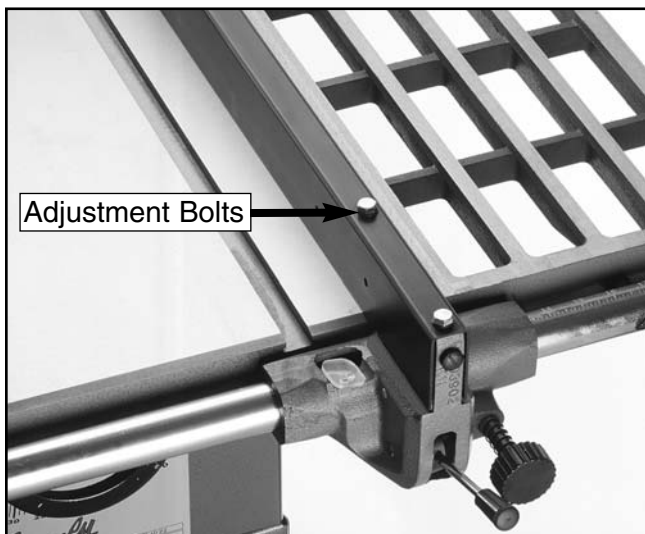

Figure 27. Adjustment bolts for fence parallelism.
6. Loosen the adjustment bolts at the top of the fence shown in **Figure 27**.